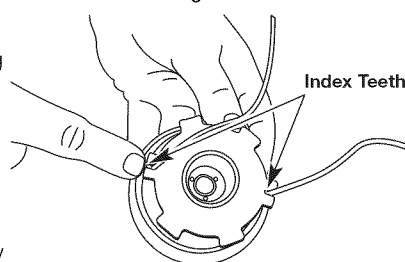

Fig. 20
12. Insert the split ends of the line into the two holding slots (Fig. 20).